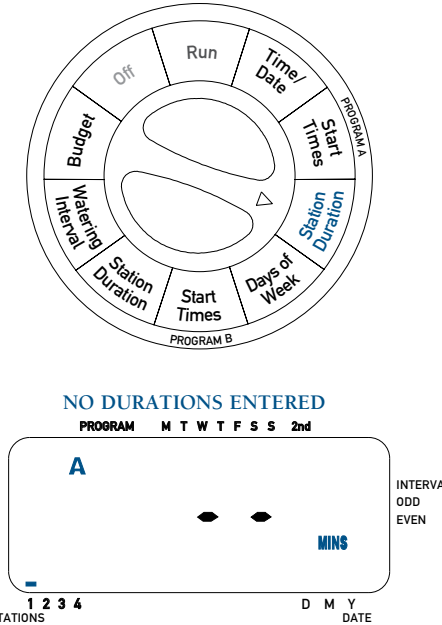

Figure 4: Entering Duration for “Program A”
- Turn the rotary dial to the **STATION DURATION** position in “Program A”. The display will show an “A” and MINS. [See Figure 4]
- Press and hold the **▲** or **▼** key to enter the watering duration and press the **ENTER** key. You should see an “A” over the Station just programmed. [See Figure 4]